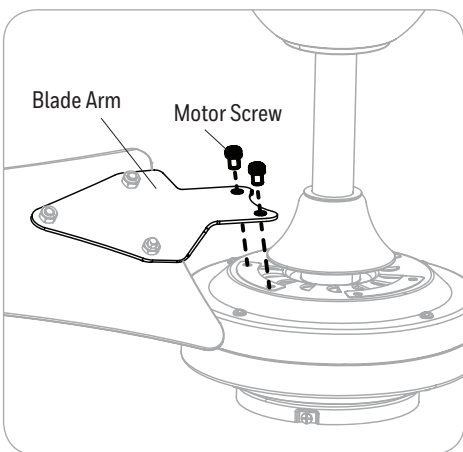

Figure 5.4
4. Remove the six motor screws from the top of the motor assembly. Then, align the holes in one blade arm with the two motor screw holes in the top of the motor assembly. Secure with two motor screws. Repeat this step for the remaining blade arm (Figure 5.4).